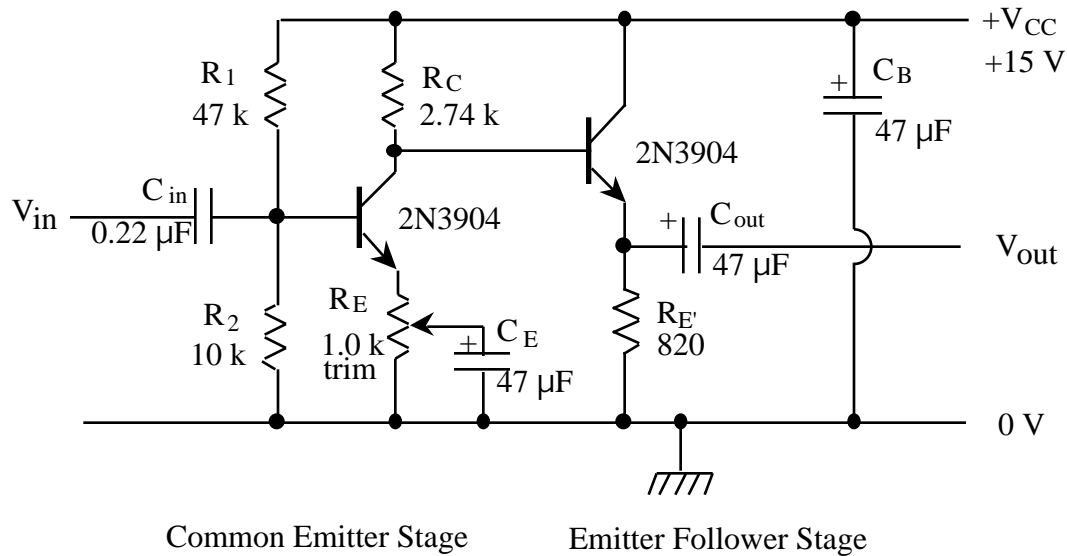

Figure 7.5 Complete Two-stage Amplifier Circuit
Now R stands for whatever impedance is connected to the base. For our two-stage amplifier shown in Figure 7.5, the emitter-follower base is connected to the collector of a common emitter stage, and so R is the output impedance of that stage, which is equal to R_C .
- Calculate the output impedance for the emitter follower circuit shown in Figure 7.5. What fraction of the original output amplitude do you expect to obtain when you attach the 560Ω load to the emitter follower output?
Assemble the emitter follower circuit shown in Figure 7.5. Do not connect the 560 Ω load to the output yet.